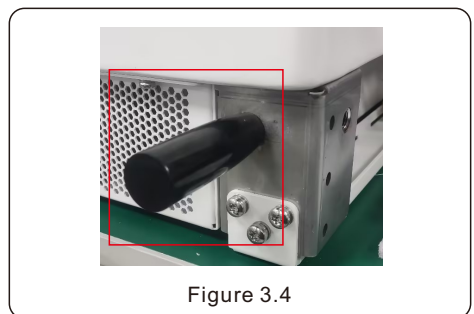

Figure 3.4
4. There are four black mounting handrails on the machine, they are removable and convenient for installation (see Figure 3.4).